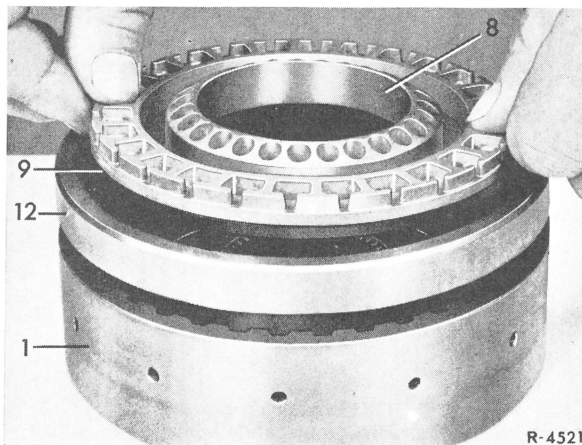

Fig. 7
8 Insert introducing ring (12) into supporting flange (1) (Fig. 7).